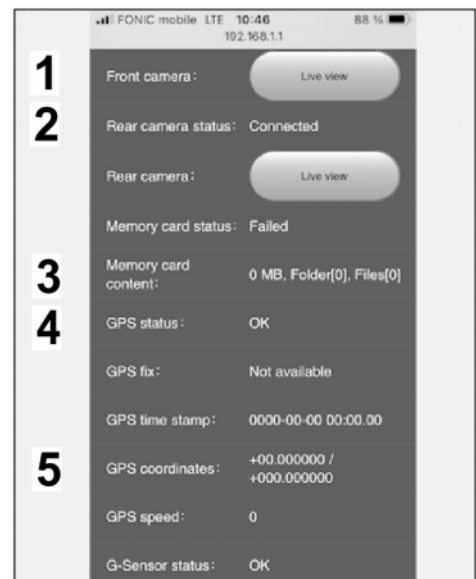

Figure 31
6.2 Display of live images from front camera, connection status, memory card status, GPS and radar status and more (⇒ *Figure 31*).